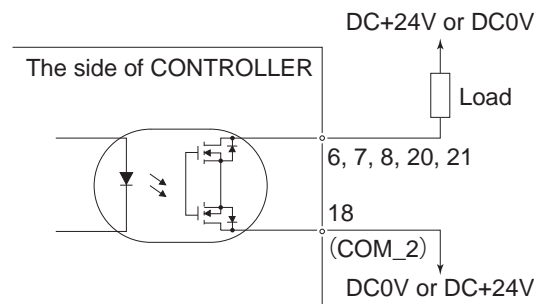

Fig. 23
(4) Setting the Motor Speed
Setting parameter $\overline{P2}$ to ON allows the motor speed to be adjusted in Auto Mode using the Motor Speed Adjustment Button (SPEED  , ) ⑮ of the Fig. 23.
Use an external power source for output circuits. It is recommended to use the same DC+24V power source used for input signals. Please refer to Fig. 23 for connections.